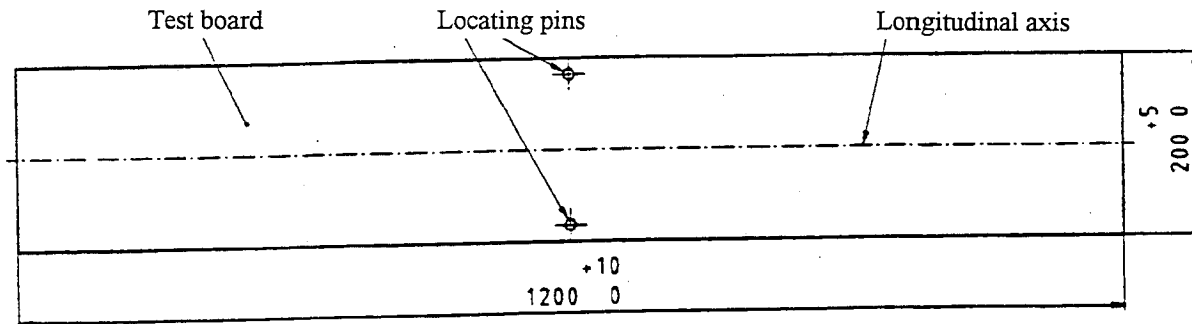

Figure 1 : Test board
5.1 A test board measuring (1200^{+10}_0) mm x (200^{+5}_0) mm with its median longitudinal axis traced and incorporating locating pins (see figure 1).